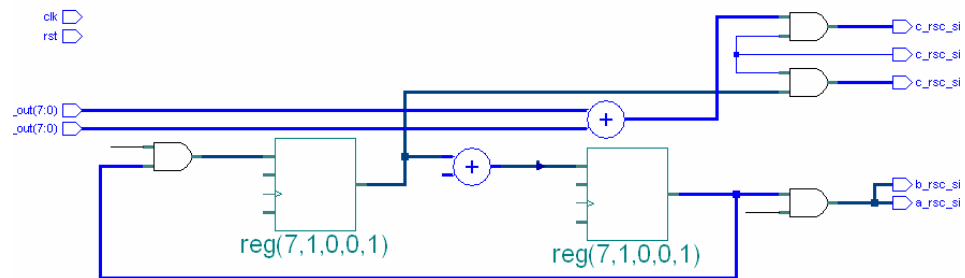

Figure 2 Datapath Schematic with Loop Left Rolled
- ✓ Verify that only two adders are used in the un-optimized design (One is for the loop increment). E.g. all loops are left rolled (Figure 2) . Note that there is also an “increment” operation that is used to count the loop iteration.